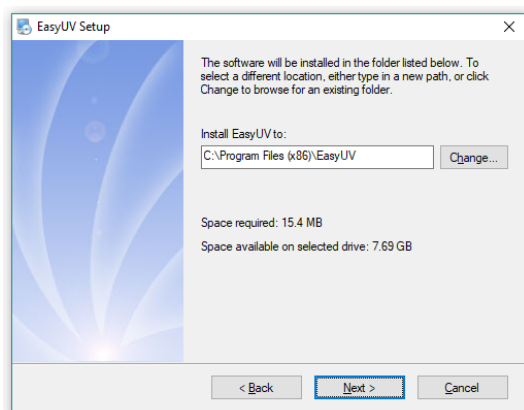

Fig. 2.2-3 Install path
- Choose install path (Fig.2.2-3), then click **Next**;